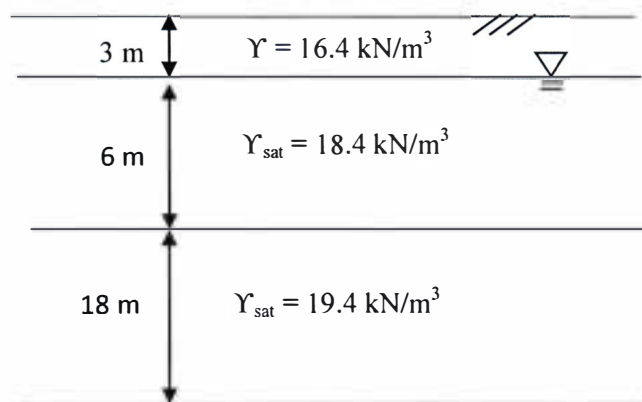

Figure 1
1. During standard penetration tests (Figure 1), at 5 m below ground level, N_{60} was obtained after applying the corrections for borehole diameter, hammer efficiency, rod length and sampler, as below: